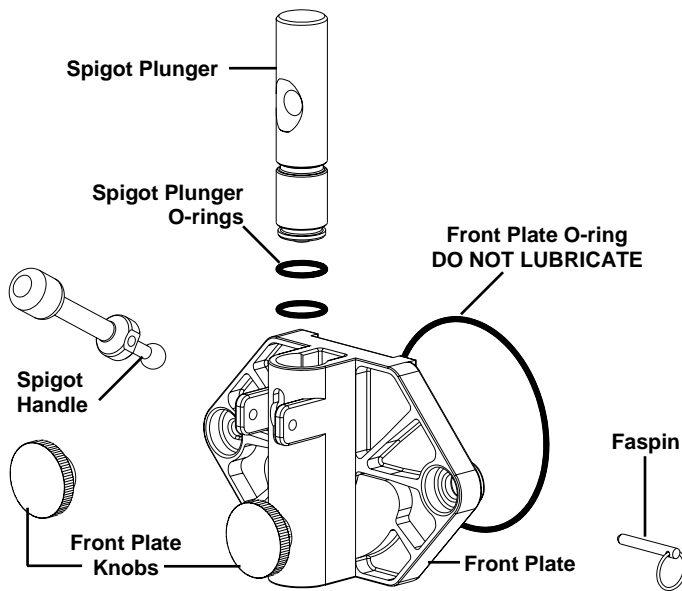

Fig. 9
b. Slide the lubricated spigot plunger into the front plate (Fig. 9) making certain that the spigot handle slot is aligned to the front.